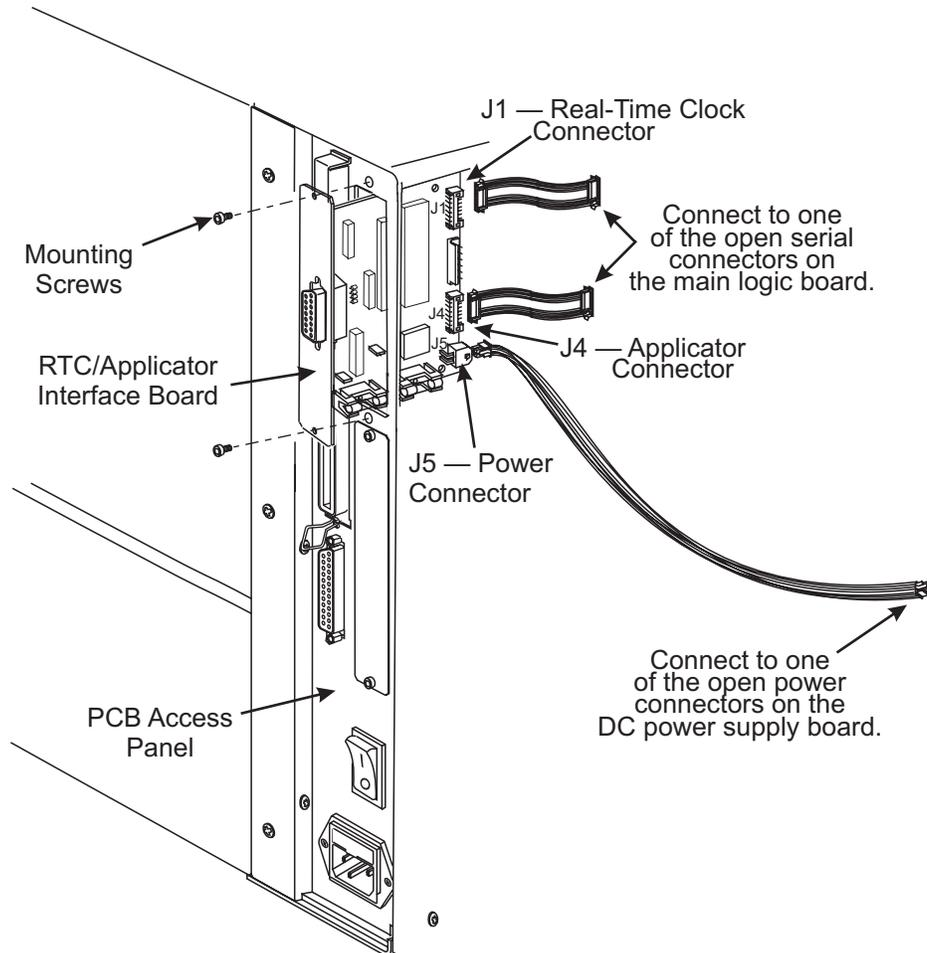

Figure 6-30. Applicator/Real-Time Clock Installation
5. Refer to Figure 6-30. Insert the RTC/applicator circuit board and cables partially into the mounting slot. Connect the other end of the interface data cables to one of the open serial data connectors on the main logic board (J7–J10 or P30–P36) and the DC power cable to one of the open connectors (J5–J10) on the DC power supply board.
8. Reinstall the AC power cord and restore power. Turn the printer On (I).